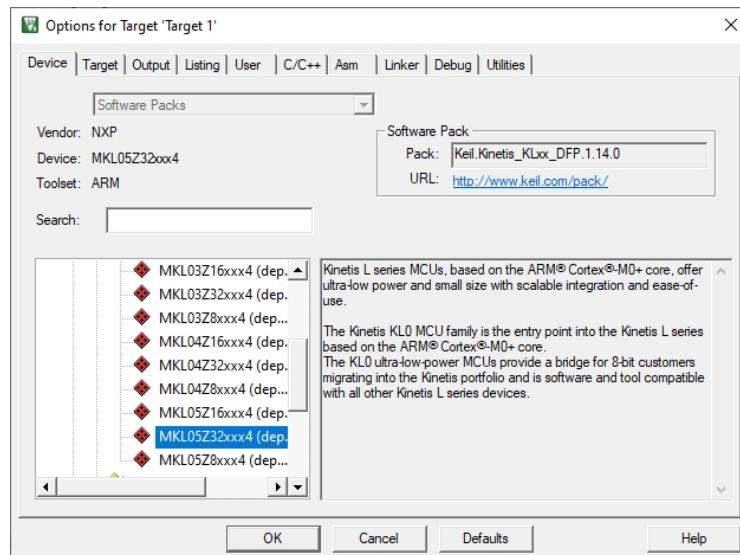

Figure 4. Select Device for Target MKL05Z32VFM4
- f. To set the target as the NXP MKL05Z32VFM4 microcontroller on the NXP FRDM-KL05Z Freedom development platform, in the left pane below the Search field, successively click next to each of the following categories to select MKL05Z32xxx4, as shown in Figure 4.